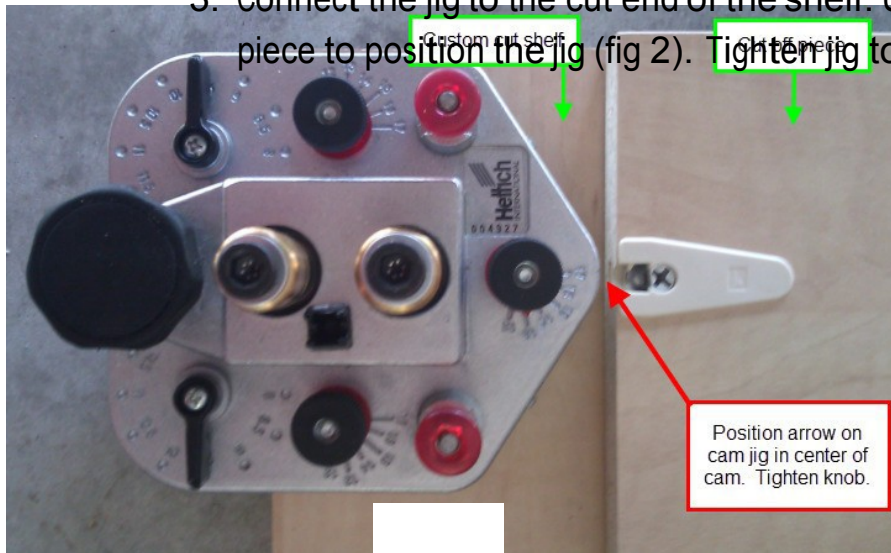

Fig 2
3. Connect the jig to the cut end of the shelf. Use the cut off piece to position the jig (fig 2). Tighten jig to shelf.